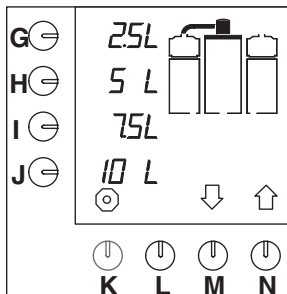

Fig. 6 Starting screen
- The indicator lamp in the switch lights up. The default options appear in the display (fig.6).
- Place the filter paper in the filter cone (R.) (if available) or in the filterpan (W) and add the required amount of ground coffee. For the recommended ground filter coffee and filter paper (quality and quantity), see § 2.6).